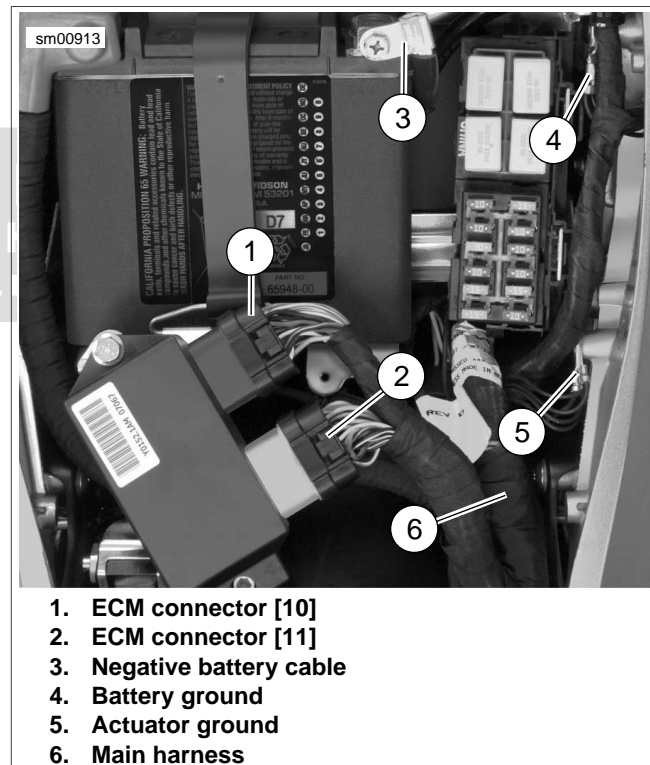

Figure 6-116. Harness and Cable Routing: Ulysses
3. See Figure 6-116. Remove negative battery cable (3) from battery. See 1.5 BATTERY MAINTENANCE.
4. Remove the fuse block from the battery tray to access the actuator harness ground (5).
5. Remove the exhaust actuator ground (5).
6. See Figure 6-116. Separate exhaust actuator harness connector [165] beneath the main harness (6) under the seat.
4. See Figure 6-116. Mate exhaust actuator harness connector [165] beneath main harness (6) under seat.